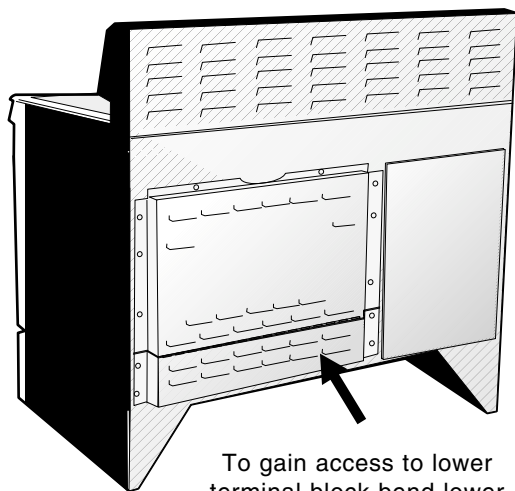

Figure 2
1. Remove the 3 screws at the lower end of the rear wire cover, then bend the lower end of the rear wire cover (access cover) upward to expose range terminal connection block (see Figure 2).
1. Remove the 3 screws at the lower end of the rear wire cover, then raise the lower end of the rear wire cover (access cover) upward to expose range terminal connection block (see figure 2).